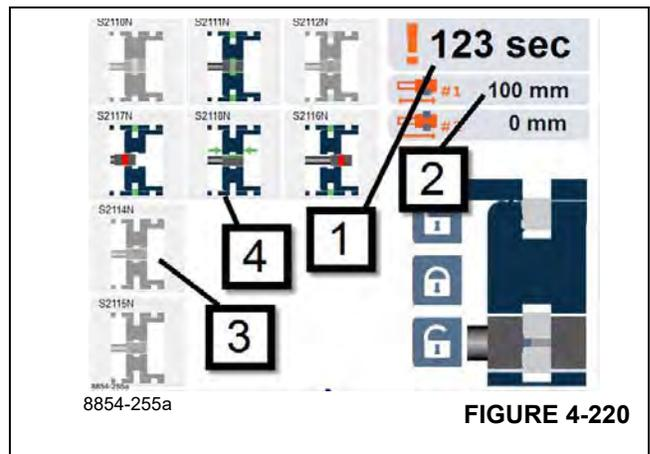

FIGURE 4-220
If the display shows an obviously unrealistic value, such as -1100 mm, then there is an error on the precision length sensor length indicator of the CCS. Contact Grove Product Support or your Local Distributor to determine if you are permitted to start the telescoping process. Item 1, (Figure 4-220) is the time remaining to correct the error.
In the display, Items 3 and 4 (Figure 4-220) are examples of indicators for proximity switches. Item 3 is switch S2114N, and it is shown in a dimmed fashion. This means the switch has been considered OFF. Item 4 is switch S2118N, and it is shown in active colors; this switch is considered ON.
- Make sure that the section pins are retracted (unlocked), then retract the telescopic section slowly and as far as possible, refer to Table 4-10 on page 175 for the expected value for the precision length sensor (Item 2 in (Figure 4-220)) when the boom sections are fully retracted.
You can now move the telescoping cylinder into the next telescopic section, refer to Table 4-11 on page 176 for the expected value for the precision length sensor (Item 2 in (Figure 4-220)) when the tele cylinder is near a connection to a boom section.
- The display (2), (Figure 4-220) shows the length for the current locking point. Refer to : *Locking Point Distances for Telescoping Cylinder (Millimeters)*, page 4-176.